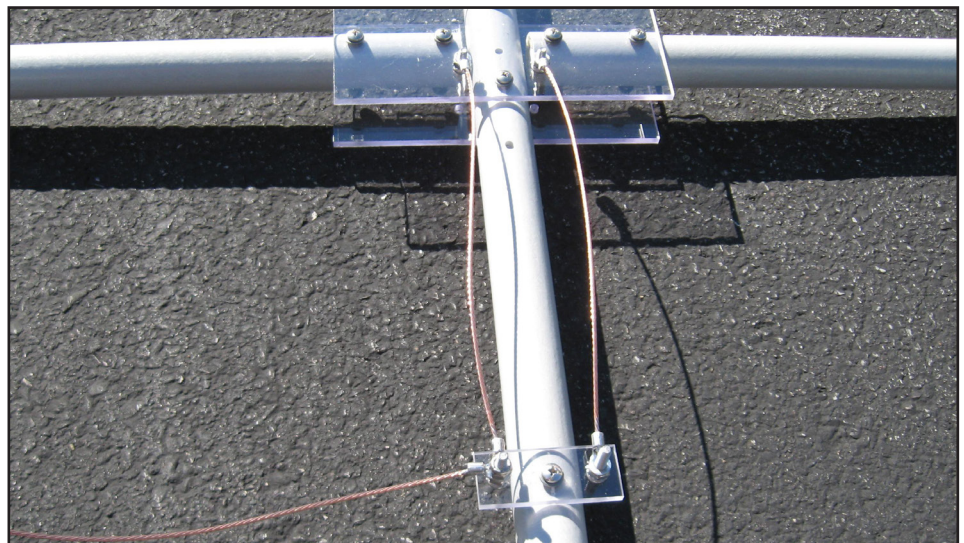

Fig. 74
- Select one (1) of the two (2) Wire Assemblies that is labeled **17D**. This is a 17M Driven Element. Carefully unwrap the wire bundle. Note that the wire is folded back upon itself at one end. This is the outside end of the element. Connect the ring terminal on the other end of the wire and position it at the terminal plate as shown in Fig. 74. Remove the 10-24 SS Anti-vibration Hex Nut, place the ring terminal over the machine screw and replace the Hex Nut. Tighten well.